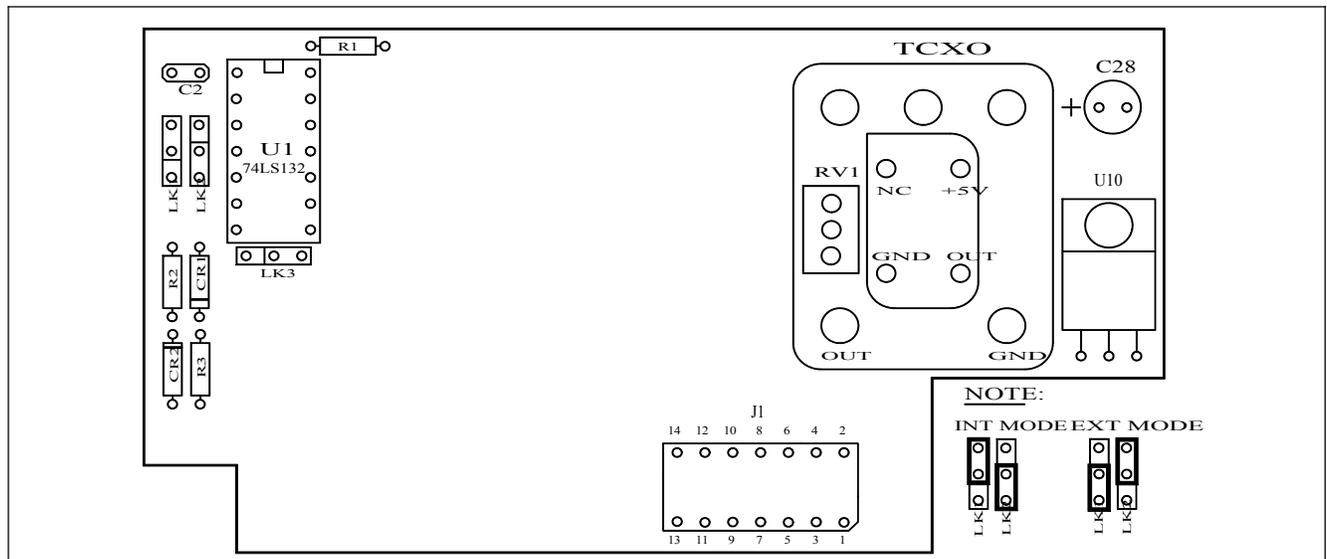

Figure 5-1. Reference Frequency and INT/EXT Clock Selection.
A. For Models 6030/2.4G and 6030/2.4G/R, refer to Figure 5-1 for the shorting link locations on the TCXO board. LK1 and LK2 select the internal or external reference. LK3 configures the instrument for a 5 MHz or 10 MHz external reference.